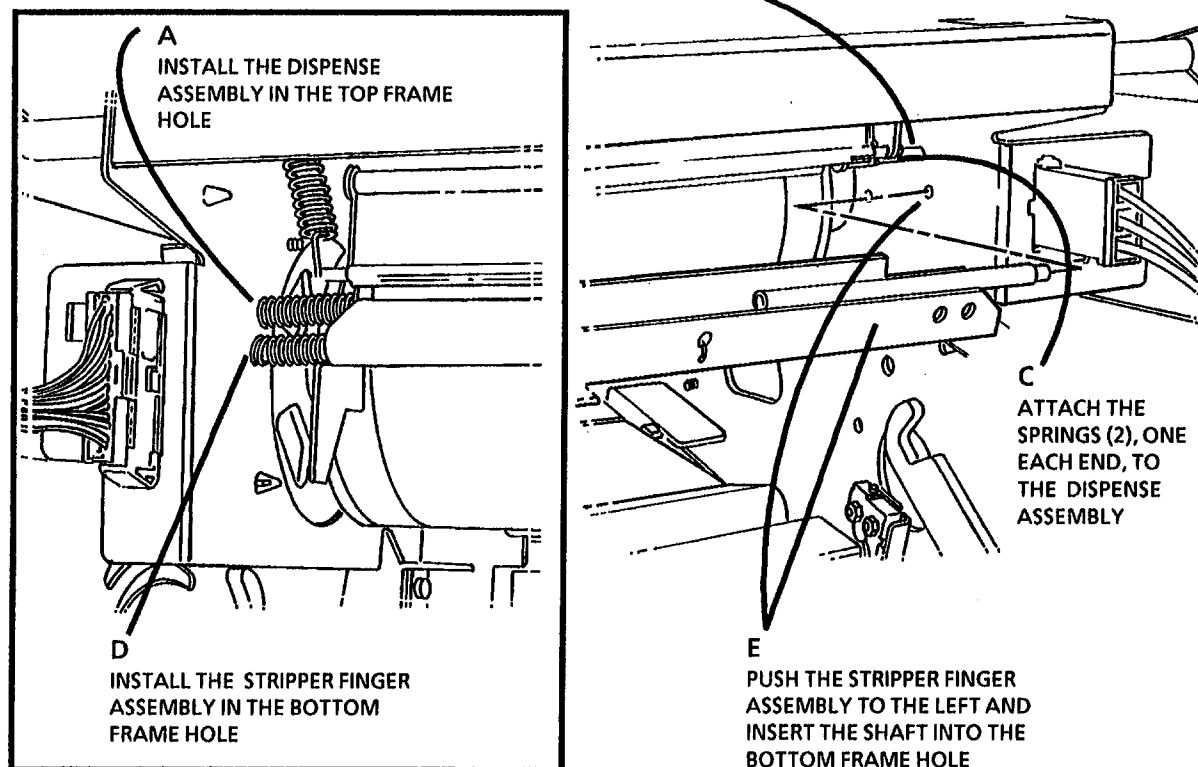

Figure 2. Installing the Oil Dispense Assembly
1. (Figure 2): Install the Oil Dispense Assembly and Stripper Finger Assembly.